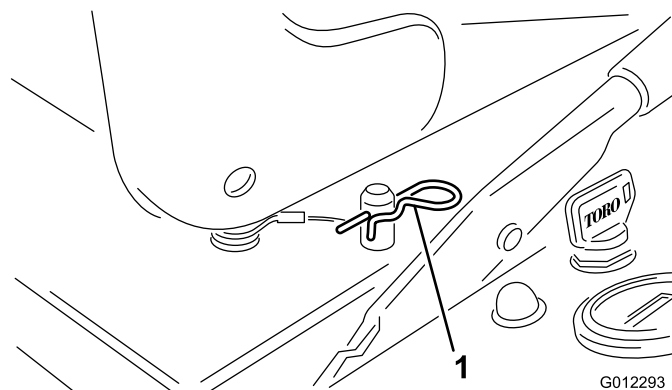

Figure 19
1. Remove the retainer clip from the seat lock rod (Figure 19).